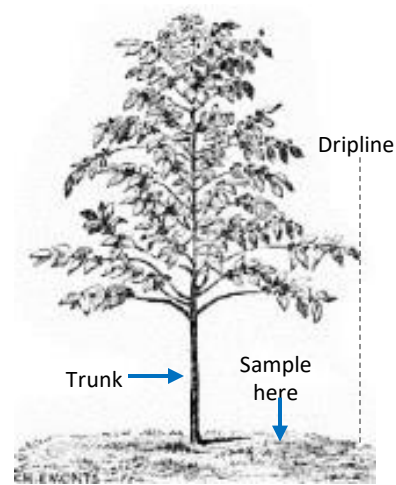

Figure 1: Soil should be sampled from the mid-point between the dripline (widest point of the branches) and the trunk of the tree.
HOW TO TAKE A SOIL SAMPLE (Fig. 1)
4. Midway between the trunk and the drip line (fig. 1), clear the soil surface of debris (leaves, fruit, weeds, etc.), rocks, and any fertilizer residue.